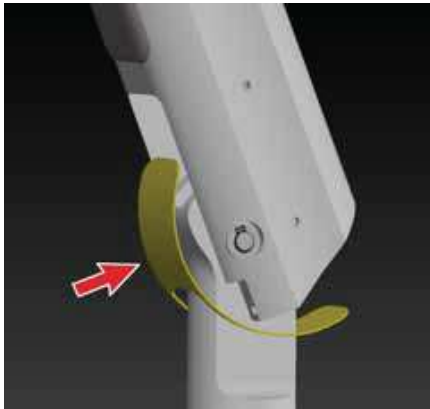

Figure 120
- For fixing back the scissor-arm end caps first, align the rubber part of scissor-arm as shown in Figure 120 .